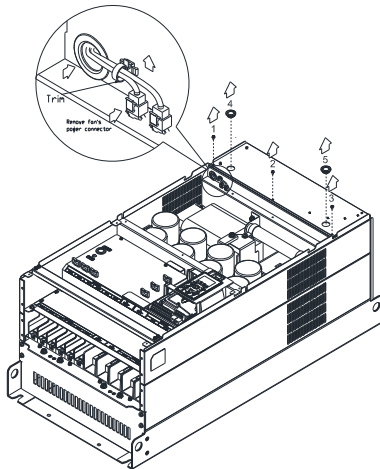

Figure 3
4. Loosen screw 1–3 and remove the protective ring (as 5. shown in figure 3) Screw torque: 14–16 kg-cm / [12.2–13.9 lb-in.] / [1.4–1.6 Nm]